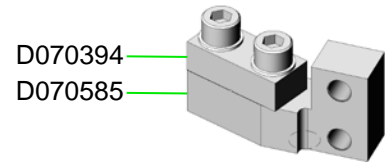

Fig 75: Upper Clamp
- 2 D080728 Bottom Mass Upper EQ Stops to the inside **front** of the Weldment (replacing the lowest 2X D080726 shown in Figure 75); NOTE: these assemblies are canted outboard by 5 degrees, as shown by the threaded holes in the Structure.